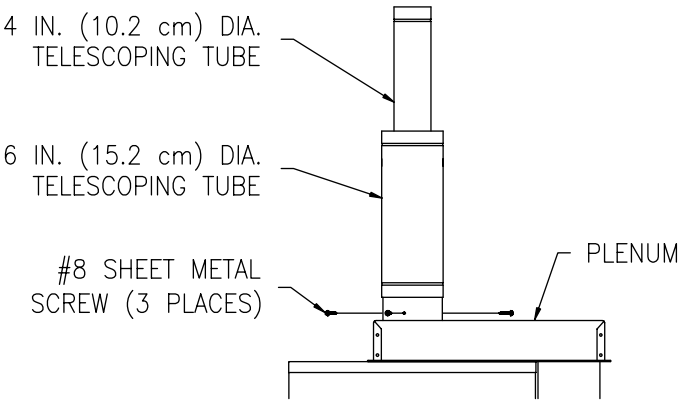

Figure 6a
Compress the six (6) inch (15.2 cm) diameter telescopic tube to minimum length. Place the large end of the six (6) inch (15.2 cm) diameter telescopic tube through the hole in the ceiling (if applicable). Insert the small end of the six (6) inch (15.2 cm) diameter telescopic tube over the four (4) inch (10.2 cm) diameter telescopic tube and plenum collar until seated on top of the plenum box. Drill three (3) 1/8 inch (3.2 mm) diameter holes, 120° apart, through the six (6) inch (15.2 cm) diameter telescopic tube into the plenum collar. Fasten with three (3) #8 sheet metal screws (supplied). (See Figure 6a).